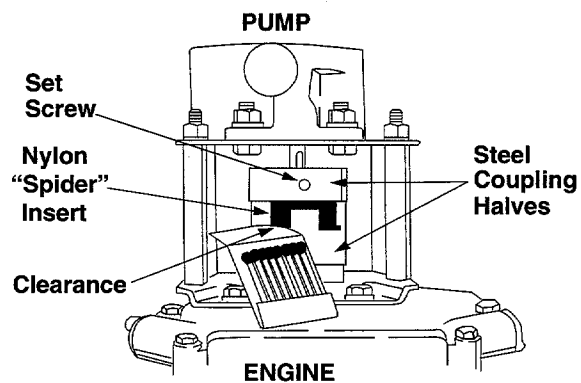

Figure 13
11. Set .010 inch to .060 inch clearance between the nylon "spider" and the engine coupling half by sliding a matchbook cover between the nylon "spider" and the engine coupling half and moving pump coupling half as needed. Secure pump coupling half with set screw. See Figure 13.